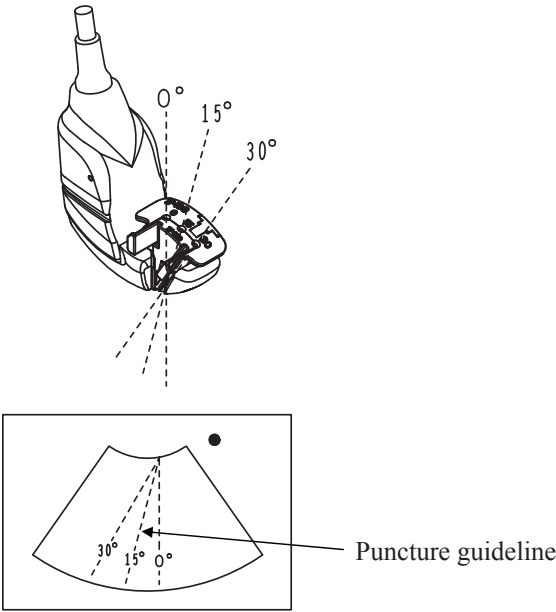
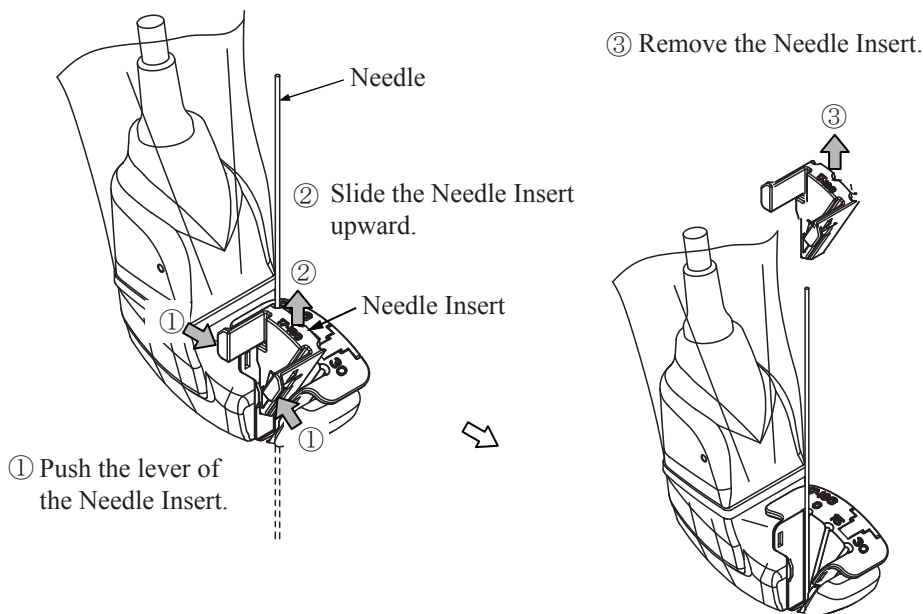

Figure 14 Relationship between the insertion angle and the puncture guideline
Figure 15 Release of the probe from the biopsy attachment during puncture
- (1) Fill a tank with water at 40 degrees Celsius, and prepare a test needle for needle echo confirmation.
- (2) Connect the probe to the ultrasound diagnostic instrument. Display the puncture guideline on the image. Refer to the documentation supplied with the ultrasound diagnostic instrument for how to display the puncture guideline.
- (3) Attach the biopsy attachment to the probe according to 4-1. Insert the test needle into the needle insertion groove. Confirm that the needle can be smoothly inserted.
- (4) Put the probe in sterile water so that needle echo is displayed.
- (5) Confirm that the needle echo at each angle overlaps with the correspondent puncture guideline. Refer to the Figure 14 for the relationship between the puncture angle and the displayed puncture guideline.
Fix the probe firmly and perform a puncture by inserting a needle to the needle insertion groove. Confirm that the puncture guideline which corresponds to the insertion angle is displayed. Figure 14 indicates the relationship between the insertion angle and the guideline. If the probe is needed to be released from the biopsy attachment during puncture, release the needle insert as indicated in Figure 15 and then release the probe.